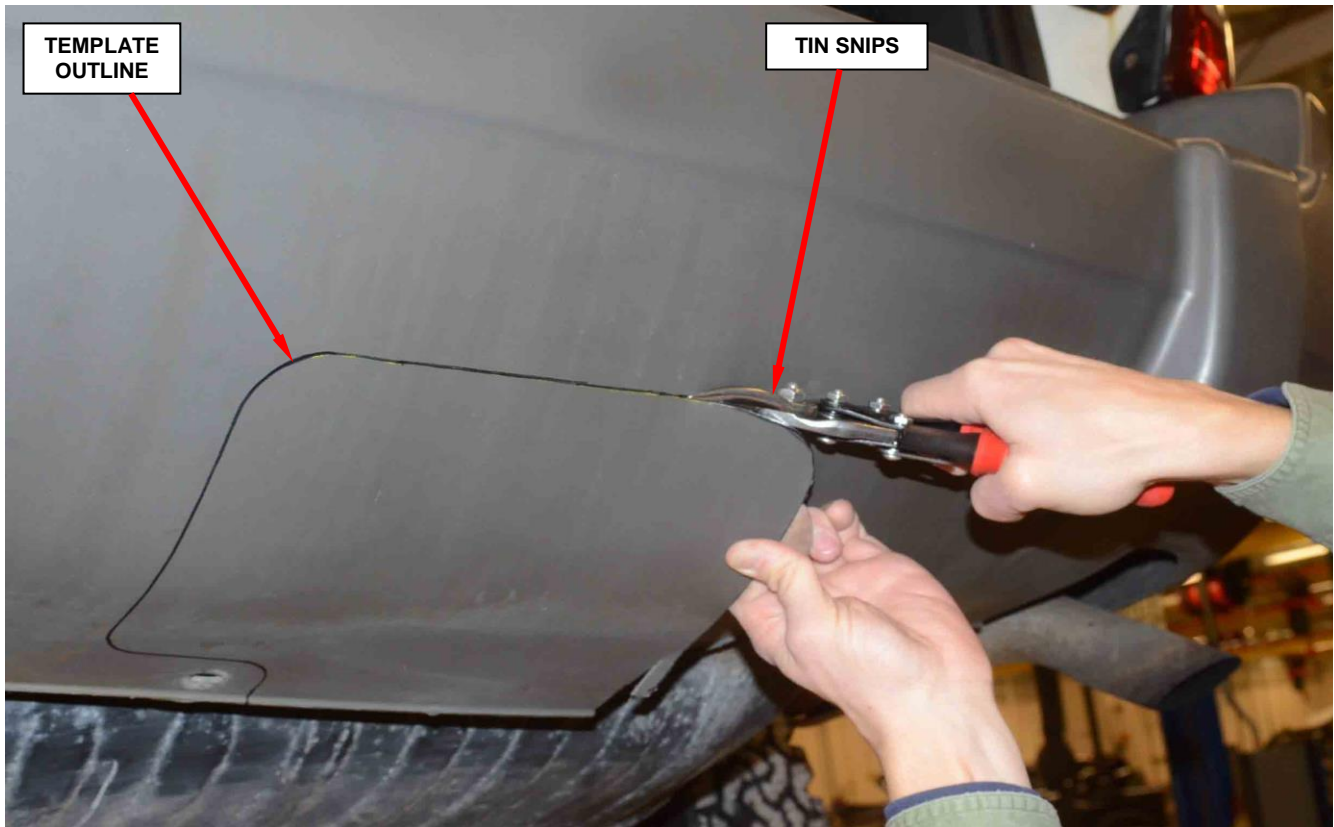

Figure 5 – Cut Out Trailer Hitch Opening in Fascia
10. Using tin snips or equivalent, carefully cut out the trailer hitch opening on the fascia by following the line made in Step 7 of this procedure (Figure 5).